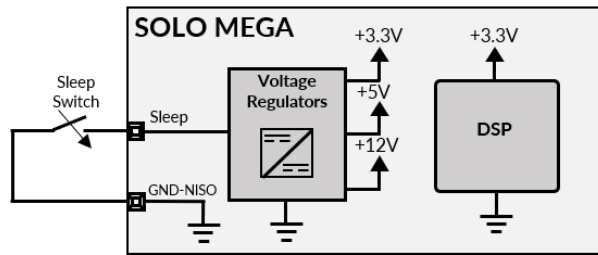

Figure 17 - Sleep Mode wiring
In SOLO MEGA it is possible to put SOLO at very low current consumption which is called sleep mode. As shown in Figure 17 a switch is used to pull down Sleep input to ground in order to put SOLO in Sleep Mode, the current consumption in this mode will be around 2.6mA.
3. Compute the PT1000 resistance as the PT1000 temperature sensor is practically a resistor, it will form a resistor divider network with R1 resistor shown above in Figure 17 .